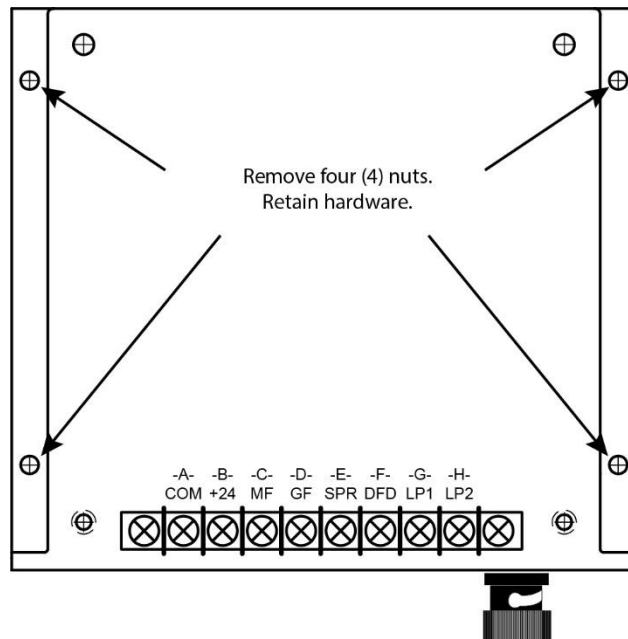

Figure 2 Remove Nuts on KRM100
3. Loosen and remove four (4) nuts and remove KRM100. Retain hardware for KRM2000 installation. See Figure 2.